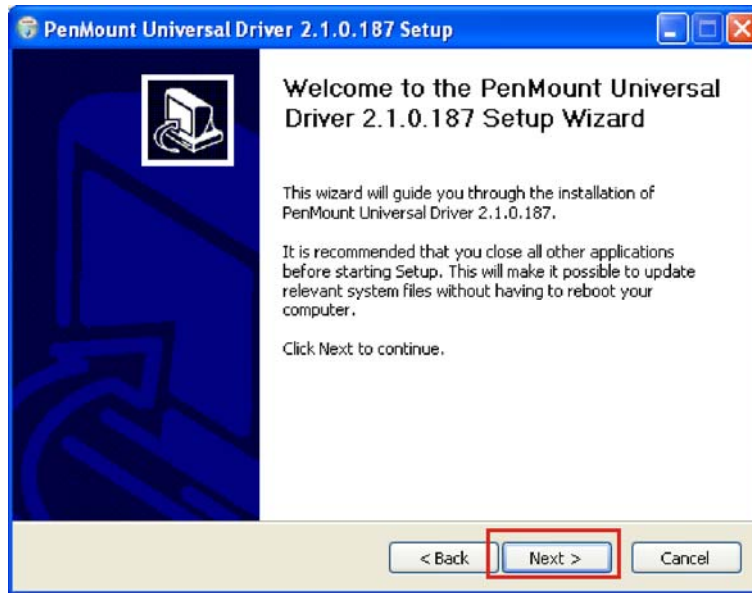

Figure 6-25: Touch Panel Driver Welcome Screen
Step 3: A new window opens and the touch panel driver installation wizard is shown (Figure 6-25).
Step 4: Click **NEXT** to begin the touch panel driver installation process (Figure 6-25).